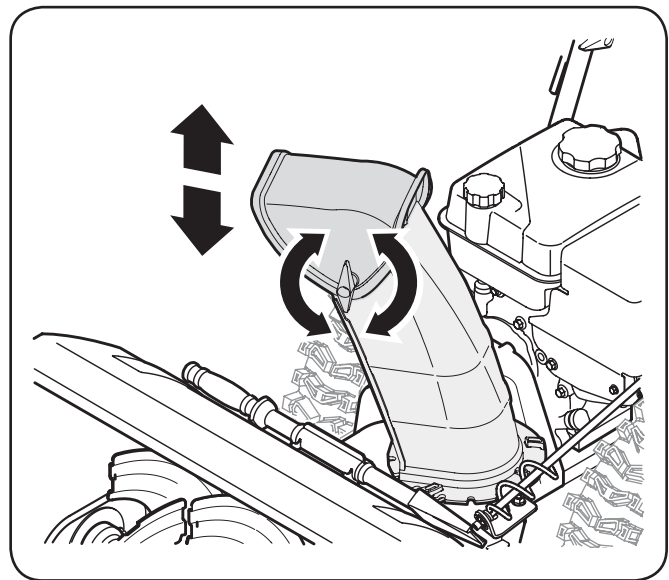

Figure 3-17
2. Pivot the chute upward or downward before retightening the wing knob. See Fig. 3-17.